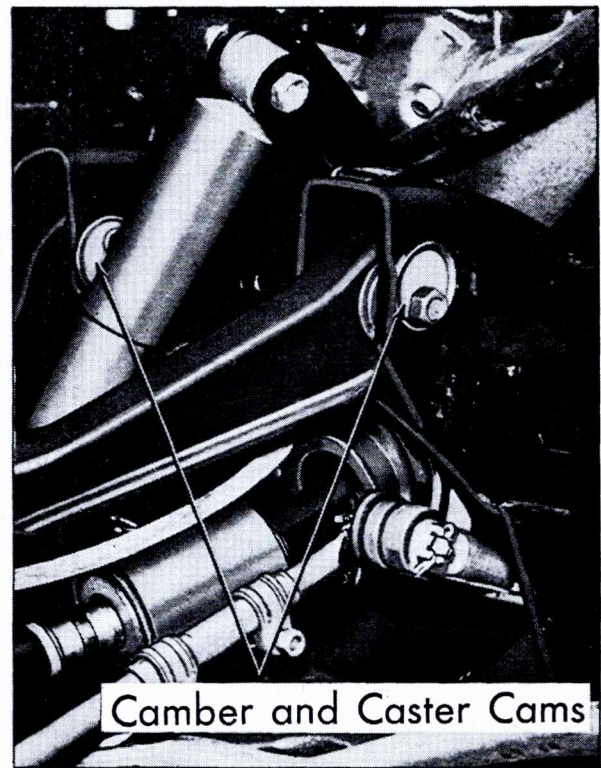

Fig. 3-45 Caster, Camber, Cam Locations
2. Install cam assemblies as shown in Fig. 3-45.
5. Install cam assemblies as shown in Fig. 3-45.